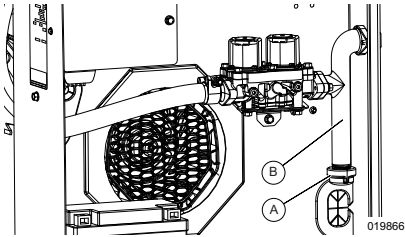

Figure 4-9. Cleaning the Sediment Trap
5. See Figure 4-9. Unscrew and remove cap (A).